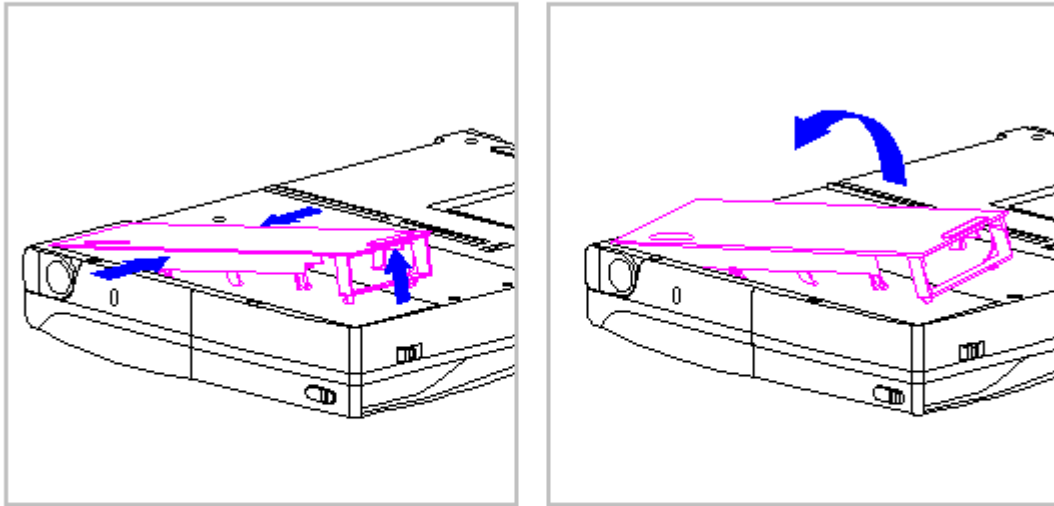

Figure 5-25. Removing the Battery Compartment
3. Gently squeeze in the sides of the compartment, rocking it back and forth, then lifting it up from the bottom of the base (Figure 5-25).